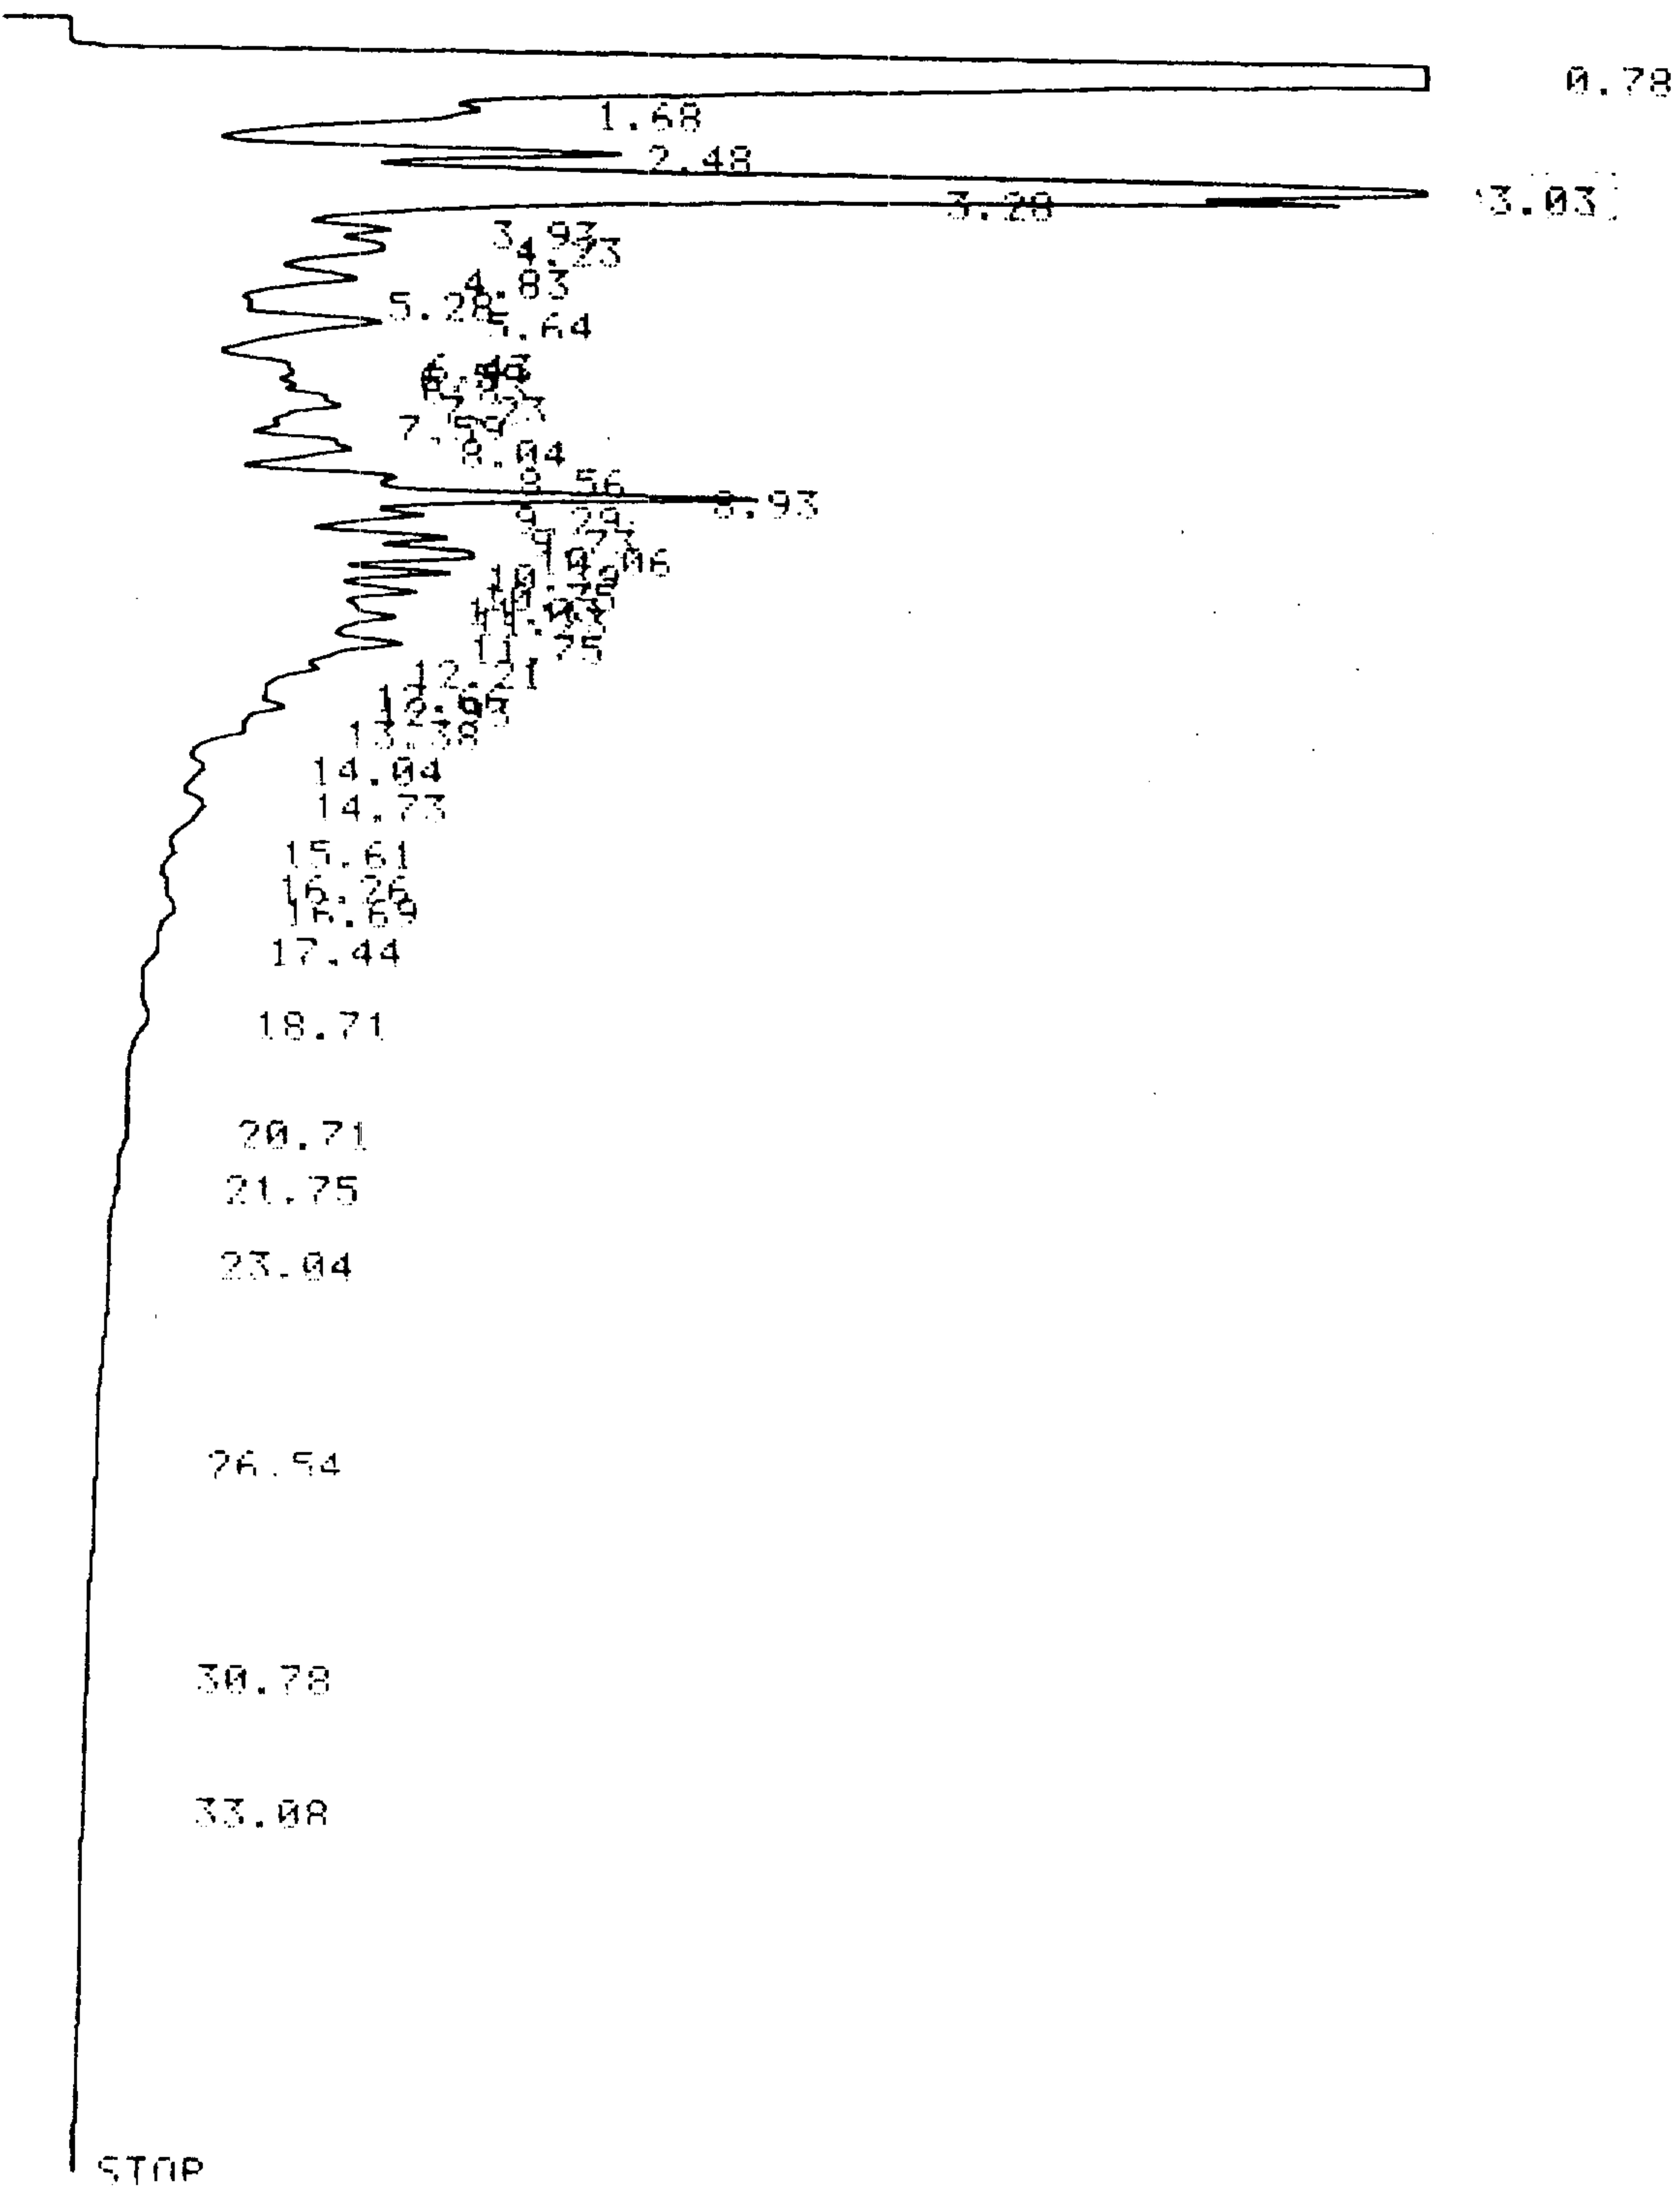

Figure 1 DN101 grade
- (1) After calculating density according to primary peak time by table 1 from chromatogram made by clause 5, compare it with table 1 or with from figure1 to figure 9.
- (2) After finding the grade to describe similar figure or density, report it according to grade name.